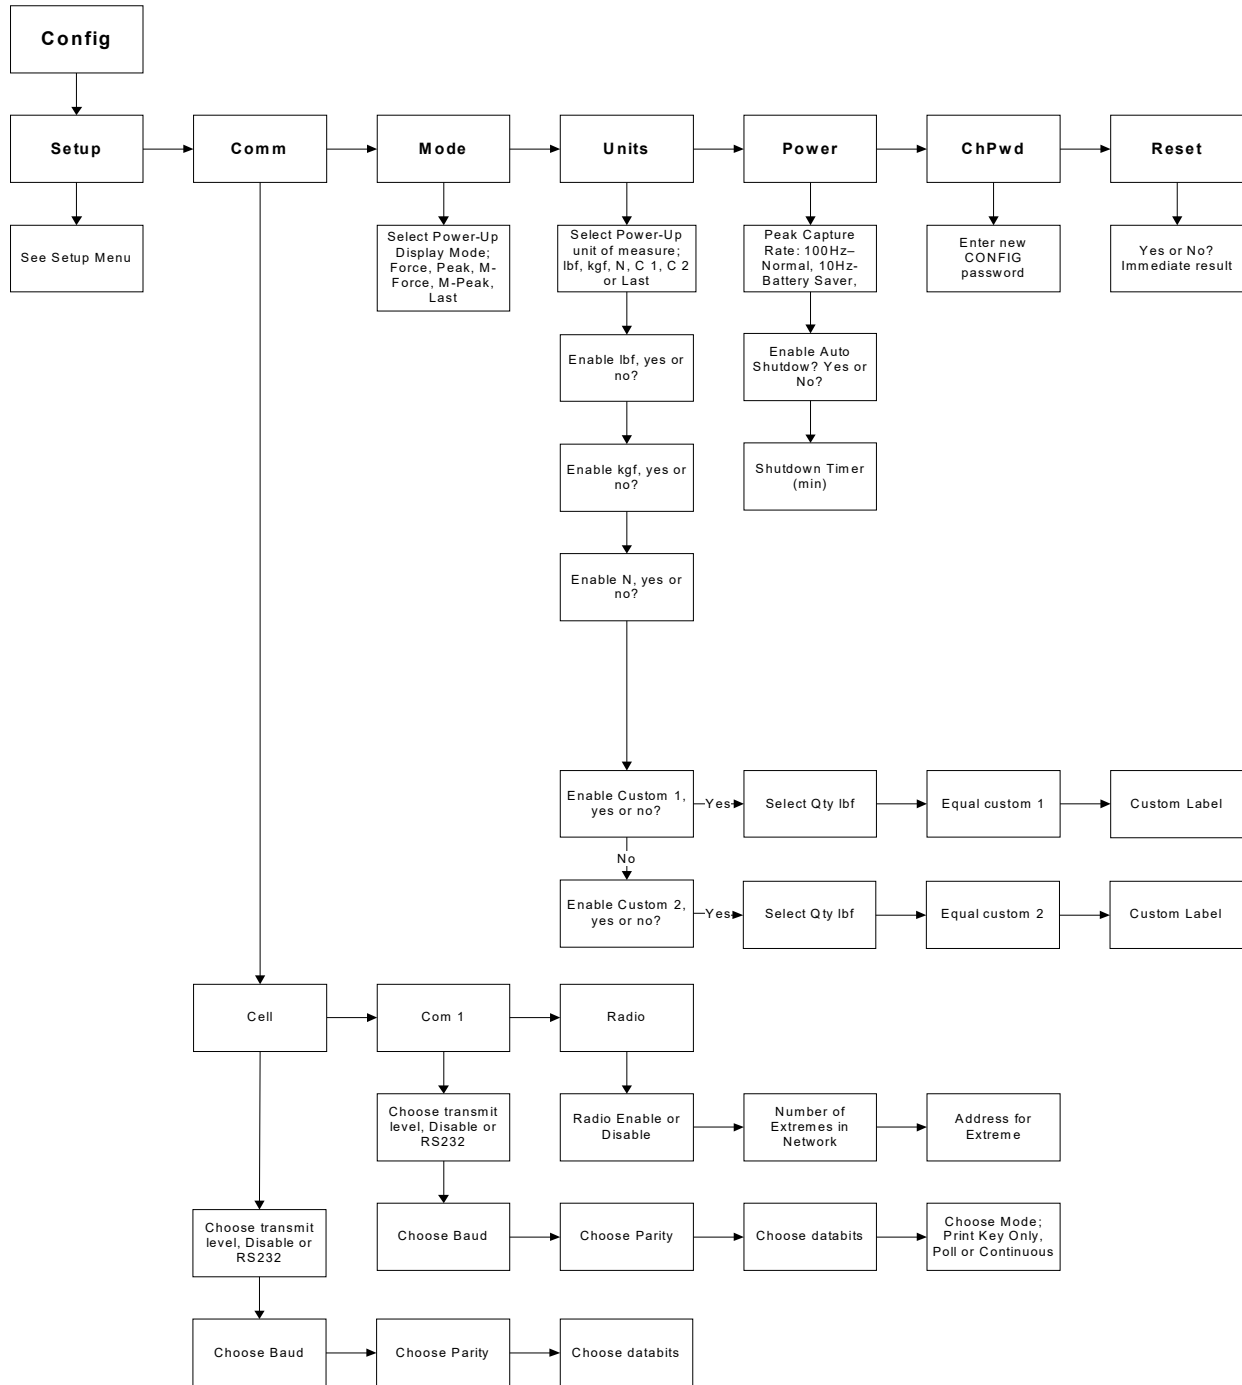

Figure 6.3 Communicator Config(uration) menu
- Config** Accesses the Config menu shown in Figure 6.3.
The configuration menu, shown in Figure 6.3, allows you to set the items described below. Press the right **Arrow** key to access the **Config** menu softkey. Press the **Config** soft key to enter the menu. Accept the user password displayed (default is 0) or your password if it has been customized. Press the **Enter** soft key to accept the password and access the menu.